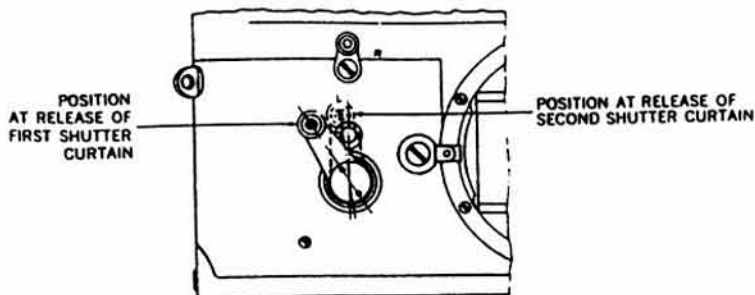

Figure 4-20. Delayed Action Lever, Releasing Positions.
d. *Checking* (fig. 4-20). Set the shutter speed dial to "B", wind the shutter, and depress the delayed action release button. The first shutter curtain should release when the delayed action lever is approximately 30° from its vertical position. The second curtain should release when the lever is approximately 5° from the vertical.